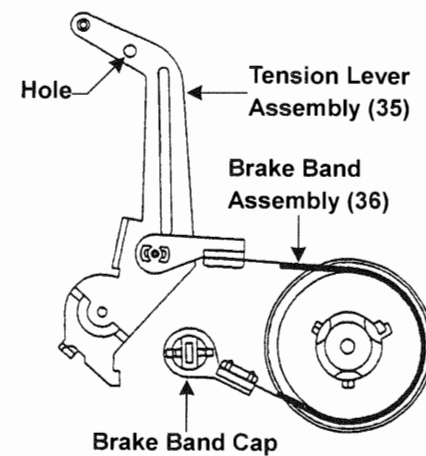

Figure 5
Using the procedure listed in "Service Information", set the mechanism to the play mode. Turn the brake band cap [part of the brake band assembly (36)] until the hole in the tension lever assembly (35) is aligned with the hole in the main base assembly (1). See figure 5.